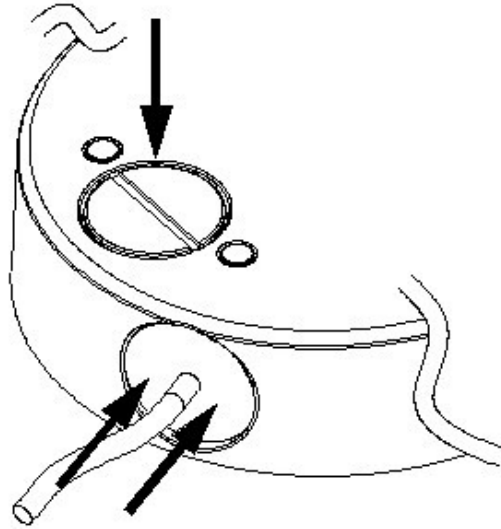

Figure 2-12
2. Remove waterproof plug from the side of the camera and install it to the bottom as **shown in Figure 2-12**.
3. Put Output cable through the side conduit hole and insert the cable waterproof rubber plug into the side conduit hole (refer to **Figure 2-12**).